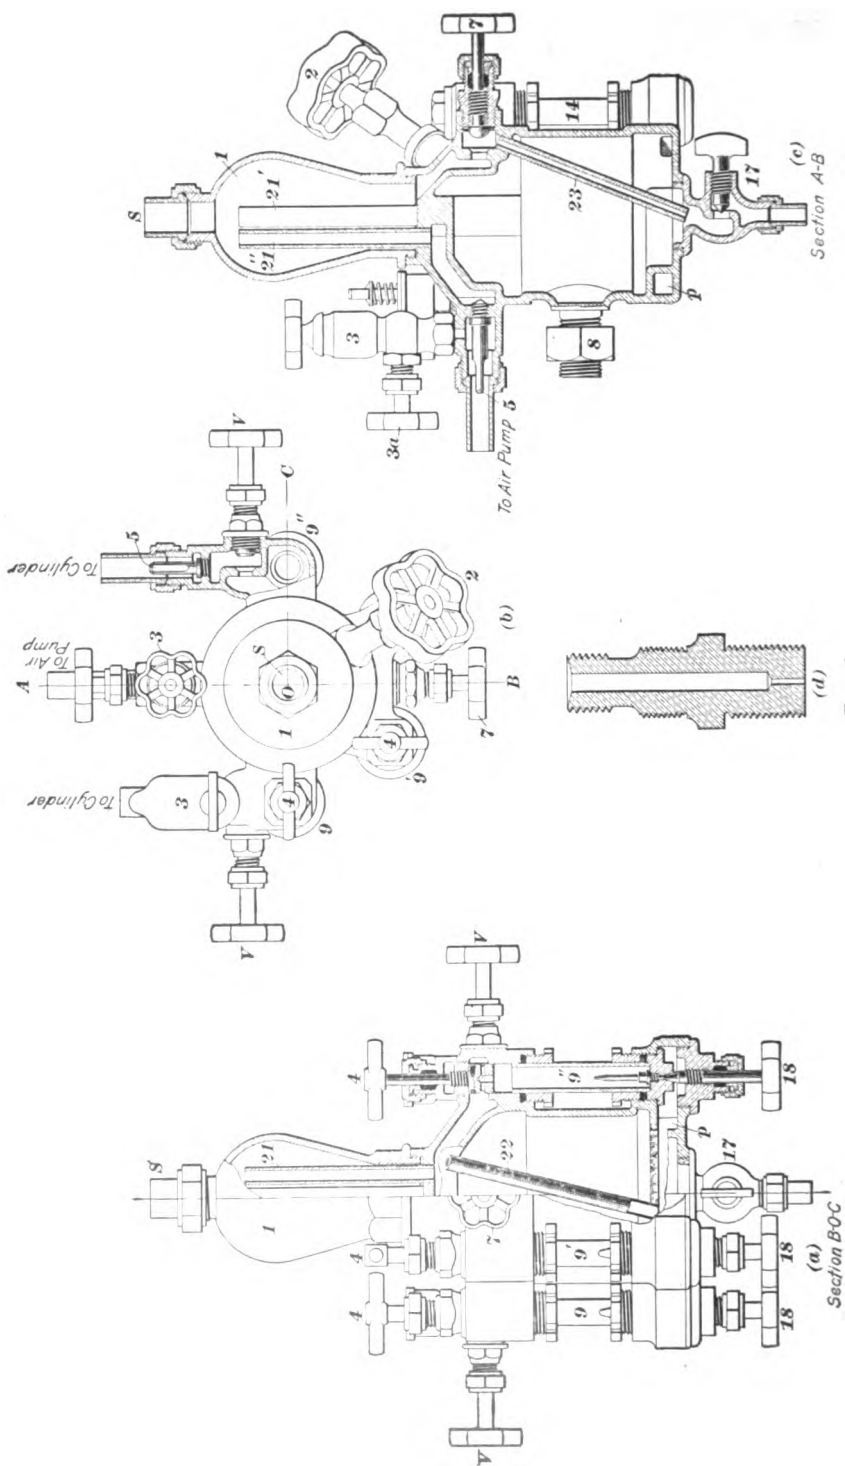

FIG. 19.
**47. Description.**—The latest improved form of Nathan triple sight-feed lubricator is illustrated in Fig. 19, in which view (a) is a section through the lubricator on the lines *B O C*, view (b); view (b) is a plan view; and view (c) is a section on the lines *A B*, view (b). The construction of the lubricator is clearly shown in the illustrations; it is very similar to that of the old lubricator, except that the equalizing tubes 21 and the passages in the body of this lubricator are made larger. Also, the air pump sight-feed *S'* is on the front of the cup, whereas the oil-pipe connection is at the back, the two being connected by a passage in the cup.